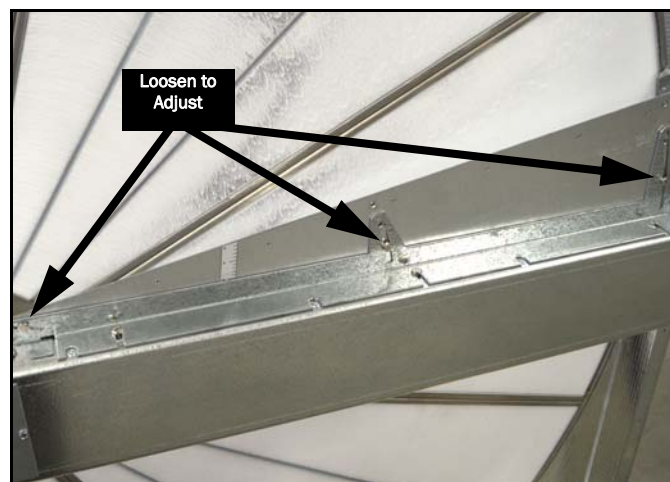

Figure 8 Purge installed on motor side of wheel.
The purge sector is an option available on channeled matrix Airxchange wheels, Figure 8. A "P" in the model number designates that the wheel includes a purge sector.
- 1 Loosen the three purge adjusting screws, Figure 8.